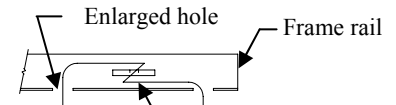

Figure 3.
①	Qty. (4)	Carriage Bolt 7/16-14 X 1.25	③	Qty. (4)	Conical Washer
②	Qty. (4)	Spacer	④	Qty. (4)	Nut 7/16-14
- Detach both (2) rear rubber muffler hangers to lower exhaust.
- Feed the pullwire through the newly enlarged hole, attach spacer and bolt and feed one at a time into the frame rail. Leave the pullwire attached. Repeat on both frame rails as shown in Figure 3.